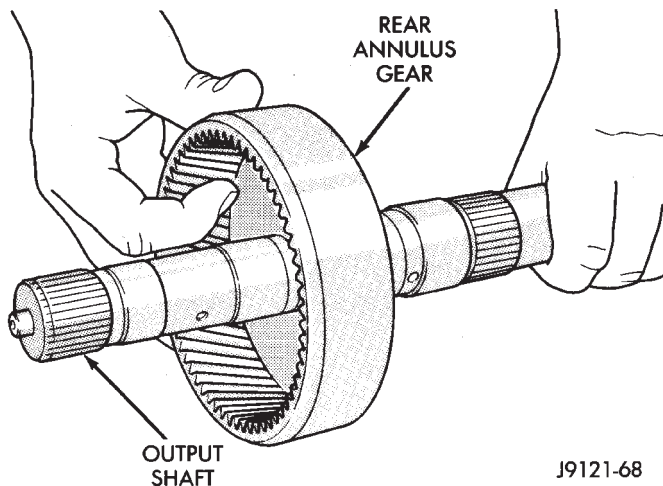

Fig. 180 Installing Rear Annulus Gear On Intermediate Shaft
(3) Install rear annulus gear on intermediate shaft (Fig. 180).